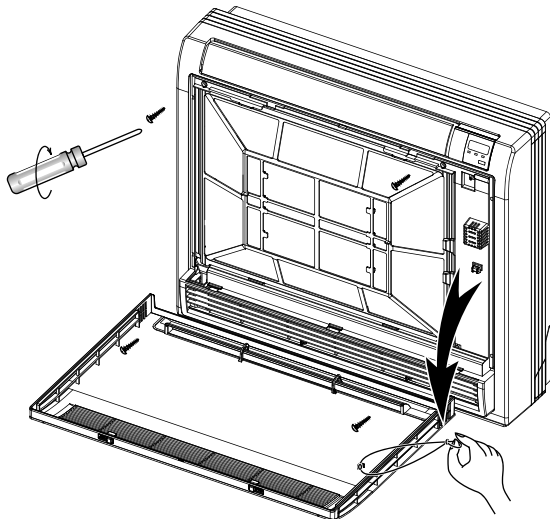

Fig. 7-2
- Remove the fastening string. (Refer to Fig. 7-2)
- Remove the four screws. (Refer to Fig. 7-2)